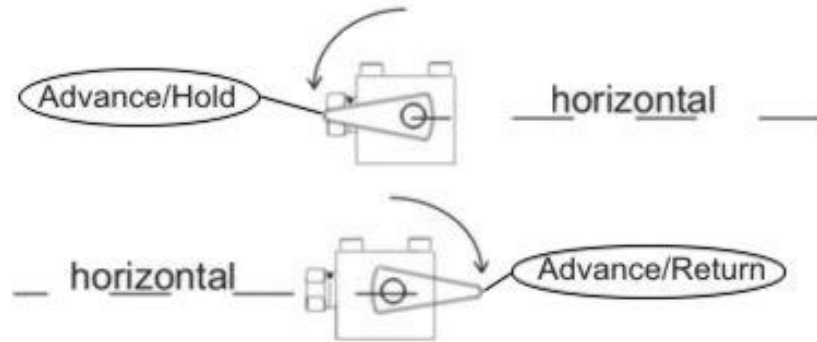

Figure 3 – DPR-222 – Dump Valve Lever Positions
5.2.1 **Advance/Hold** – Oil will go from the power unit to the cylinder/tool. The line pressure will be held when the power unit is stopped (Figure 3) when the Dump Valve Lever is in this position.
5.2.2 **Advance/Return** – Oil will go from the power unit to the cylinder/tool and will flow back automatically when the power unit is stopped (Figure 3) when the Dump Valve Lever is in this position.